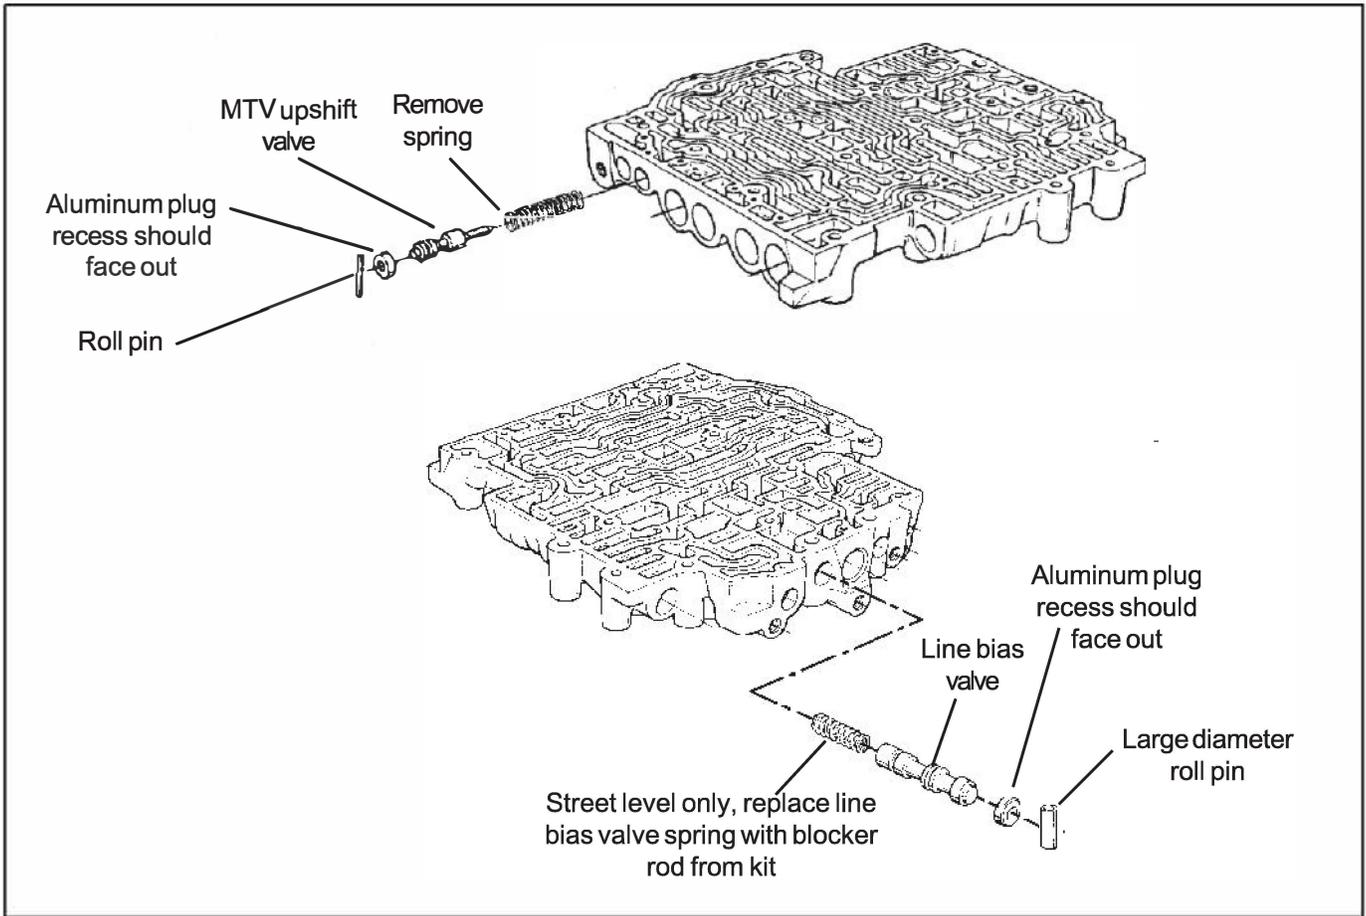

Figure 5
STEP 8. Heavy Duty and Street; MTV upshift valve (See Fig. 5.)
Compress and remove the larger roll pin retaining the line bias valve (**See Fig. 5.**) Take care to not distort the roll pin more than is required to remove it. Remove the aluminum plug, valve and spring from bore. The spring will not be re used. Insert the blocker rod from the kit into the bore. Install the valve and aluminum plug as removed. If the aluminum plug extends into the roll pin hole, remove the blocker rod and grind or file a small amount from either end of the blocker rod until the aluminum plug clears the roll pin hole when all parts are installed.